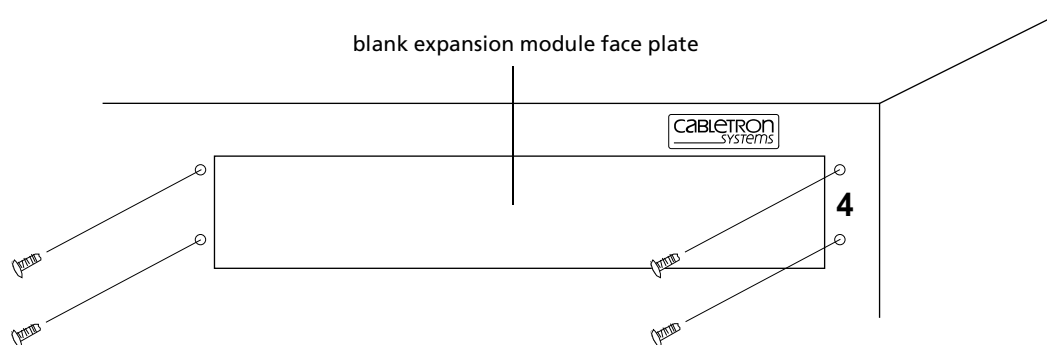

Figure 2. Removing a face plate or cover plate (view from outside chassis)
4. Use the phillips-head screwdriver to remove the four mounting screws in the existing face plate or cover plate corresponding to the expansion slot where you plan to install the expansion module. Be sure not to damage or remove the conductive tape on the inside of the chassis, both above and below the expansion slot opening. (See Figure 2, below.)